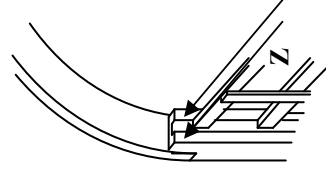

Fig 8
- 11 Raise this assembly and locate onto the tops of the posts of the seat assembly. Insert the roof struts between the curved beams in the slots provided and fix the curved beams to the top of the post using two screws **Z** at each post as Fig 8.